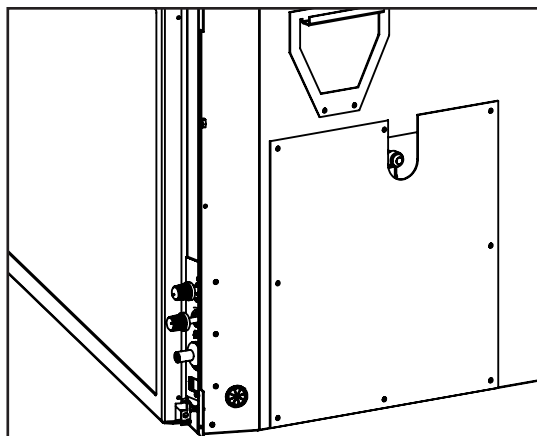

Figure 25: $\frac{3}{8}$ " NPT Male Pipe Nipple with Cover Attached.
- A $\frac{3}{8}$ " NPT male pipe nipple (supplied with the unit) will have to be turned into the valve at the lower left side rear of this fireplace (see Figures 25 and 26). Consult the local authorities for local codes or use the CAN/CGA B149 (1 or 2) installation code in Canada. In the US, gas installations follow either local codes or the current edition of the National Fuel Gas Code ANSI Z223.1.